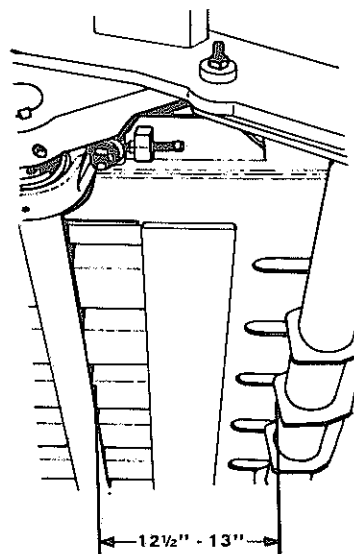

Fig. 40
12. Measure from rear side of feed fork crankshaft to front side of feed fork tine mounting tube, see **Fig. 40**. When the feed fork is at its highest point of travel in the chamber, the measurement should be 12½ to 13 inches when switch arm roller is on the high part of the cam.